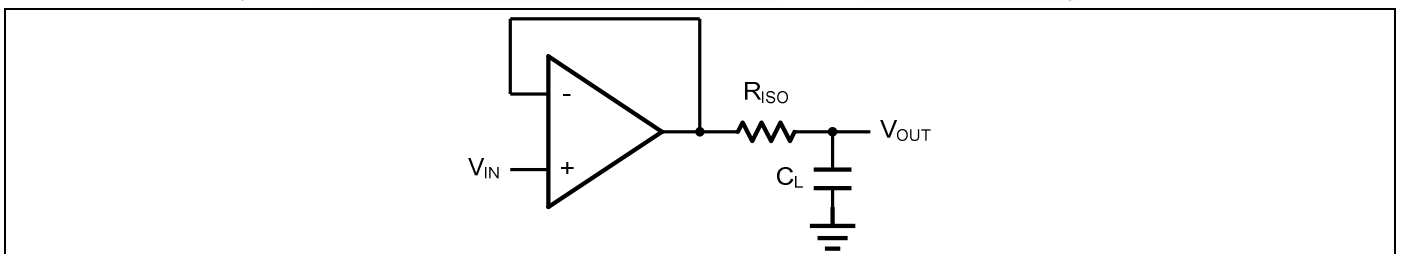
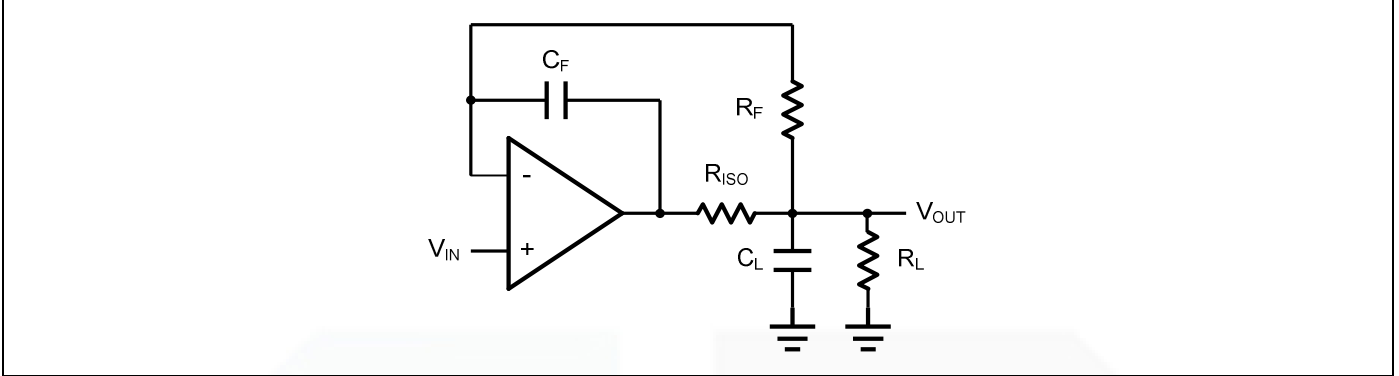

Figure 2. Indirectly Driving a Capacitive Load Using Isolation Resistor
Figure 3. Indirectly Driving a Capacitive Load with DC Accuracy
The GS855x family is optimized for bandwidth and speed, not for driving capacitive loads. Output capacitance will create a pole in the amplifier's feedback path, leading to excessive peaking and potential oscillation. If dealing with load capacitance is a requirement of the application, the two strategies to consider are (1) using a small resistor in series with the amplifier's output and the load capacitance and (2) reducing the bandwidth of the amplifier's feedback loop by increasing the overall noise gain. Figure 2. shows a unity gain follower using the series resistor strategy. The resistor isolates the output from the capacitance and, more importantly, creates a zero in the feedback path that compensates for the pole created by the output capacitance.
The circuit in Figure 3 is an improvement to the one in Figure 2.  $R_{\text{F}}$  provides the DC accuracy by feed-forward the  $V_{\text{IN}}$  to  $R_{\text{L}}$ .  $C_{\text{F}}$